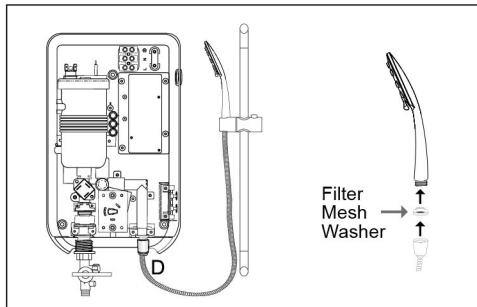

Fig. 4 - Shower Set Fitting
**ii) SHOWER SET FITTING (Refer to Fig. 4)**